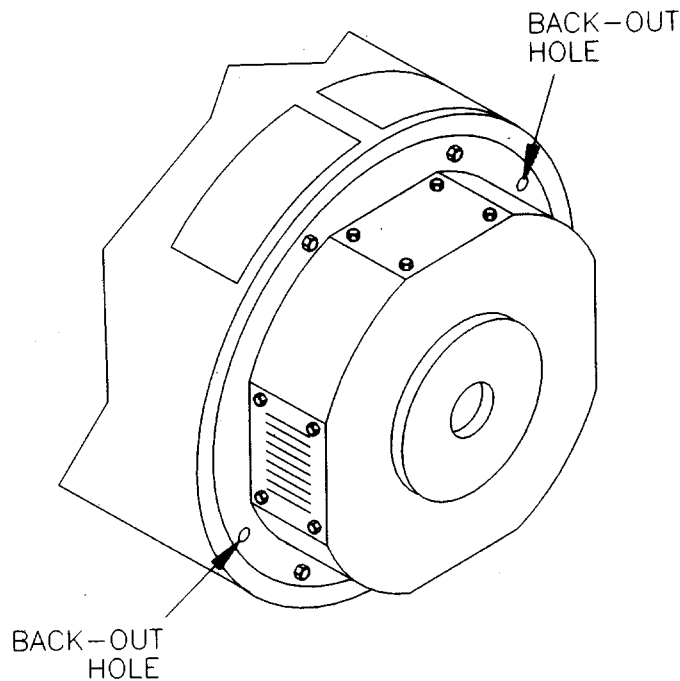

FIGURE 5-10. END BELL REMOVAL
- (5) Remove bolts (5) and lockwashers (6) from end bell (7).
- (6) Install two bolts (5) in back-out holes in end bell flange. Refer to Figure 5-10.